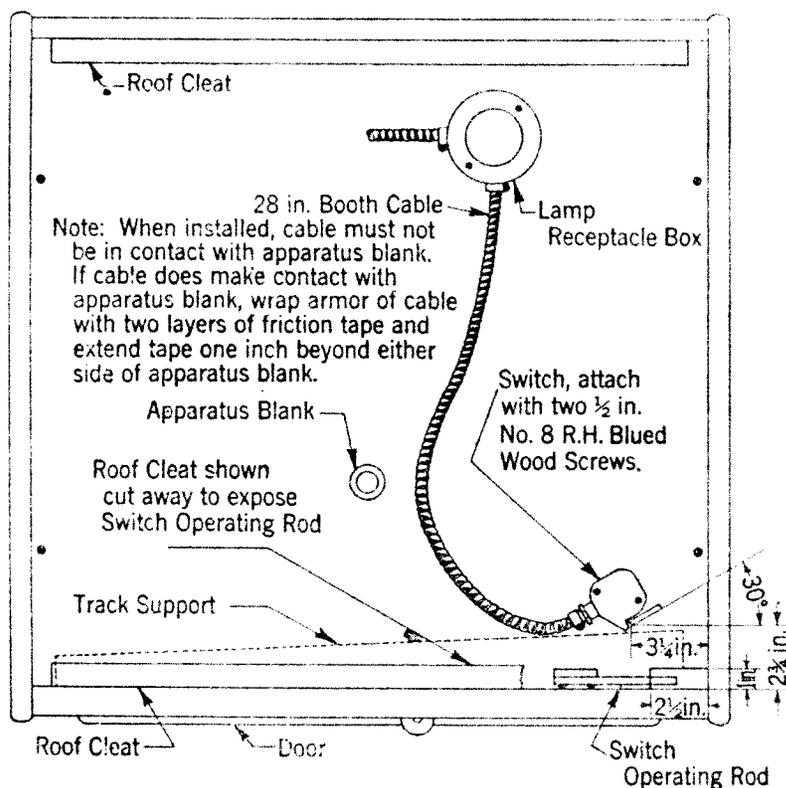

Fig. 2
- (n) Mount 204 type switch on top of ceiling as shown in Fig. 2. A convenient method for locating the switch arm at the 30° angle is shown below.
- (o) Connect 28 inch booth cable at 204 type switch and lamp receptacle. See Fig. 2.